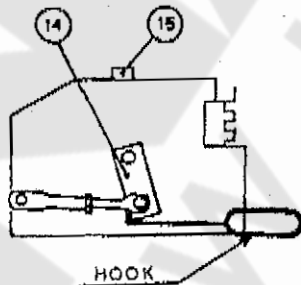
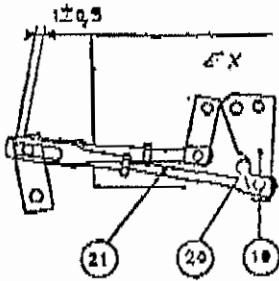

Fig. 13
Fig. 15
To test tripping of breaker by the release crank, place a wire hook as shown in Fig. 13 and hold while applying a momentary signal of 12-18 volts D.C. to the tripping actuator EX. When release unlatches, slowly allow release crank to withdraw until breaker trips open.
- a) Adjustment. Insert wire hook as shown in Fig. 13 and hold release crank (14) while applying momentary signal of 9 - 18 volts DC to the tripping actuator EX. When release unlatches, slowly allow release crank to withdraw to tripped position shown in Fig. 15. With the release in the